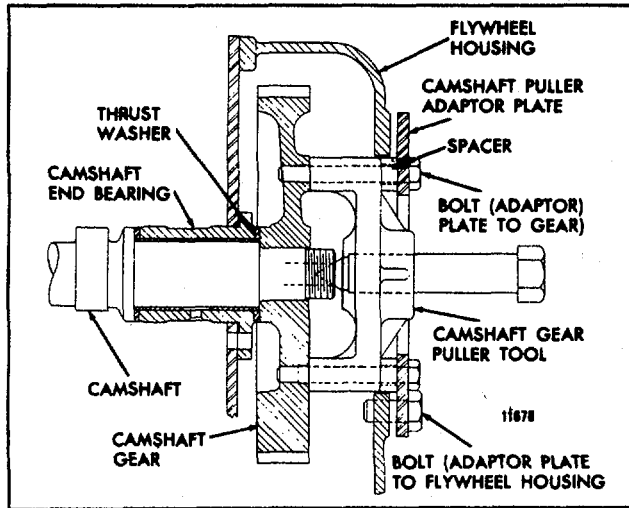

FIG.6 - Removing Camshaft with Flywheel Housing in Place
10. Install the camshaft gear puller J 1902-01, four spacers J 6202-2 and camshaft gear puller adapter plate J 6202-1 on the camshaft gear (Fig. 6).